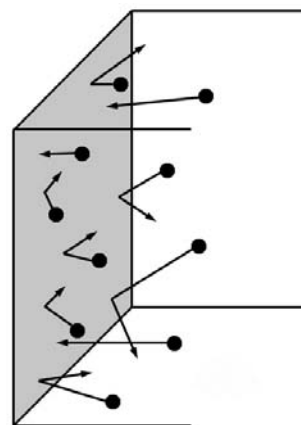

Figure 3. Gas particles exert pressure through constant collisions
Pressure (P): In some ways, pressure is the most interesting of these related properties. You might not think that something that is mostly empty space and that you can't see would be able to exert a pressure. Yet, the force we experience on the surface of the Earth, due to the atmosphere, is about 14.7 lb/in² (1 atm). How do the particles of a gas create pressure? Gas particles are in constant, random, straight-line motion, except when they collide with the container walls or with each other. Imagine the Lottery drawing where the balls bounce around and never stop moving. As gas particles collide with the surface of the container they exert a measurable pressure (Figure 3).